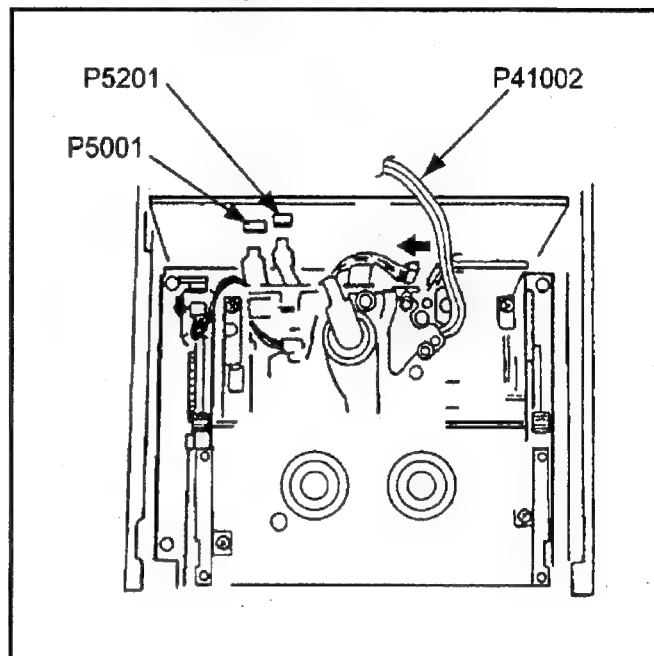

Fig. 6-1-2
6. Disconnect the connector P5001 and P5201 on RF AMP P.C.Board, which are connected between the Cylinder Unit and the RF P.C.Board as shown in Figure 6-1-2.
5. Disconnect the connector P41002 on AUDIO P.C.Board, which connected between A/C Head and AUDIO P.C.Board as shown in Figure 6-1-2.